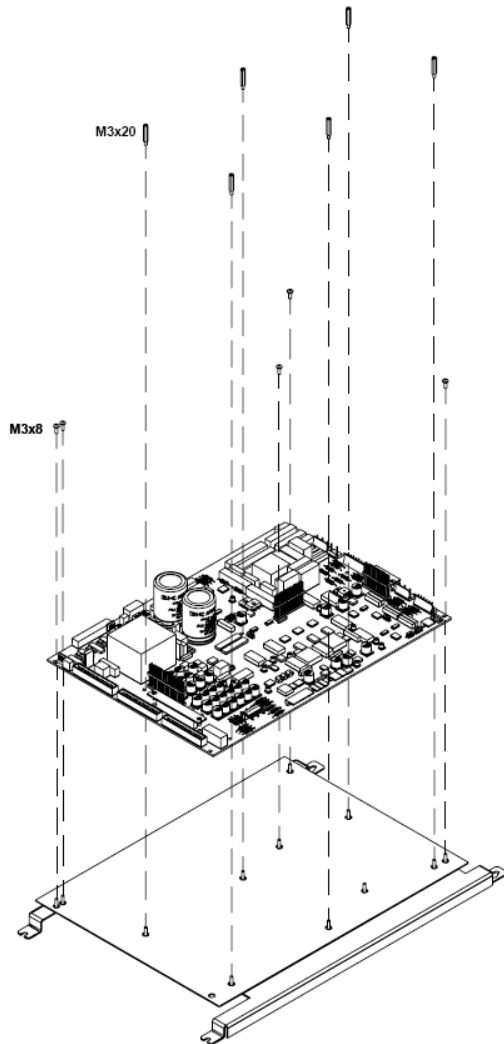

Figure 7.2.7. Disassembly of the power board
- 5) Put the board on the electronic tray, matching the bolts of the tray with the holes of the board (see figure 7.2.7)
Before proceeding, it is necessary to remove the embellishers (see section 7.2.1) and the tray where the control and power board are inserted (see figure 7.2.7).
Before removing the power connections board, you should remove the embellishers (see section 7.2.1), the tray where the control and power boards are inserted (see figure 7.2.7), the DC Bus (see section 7.2.9) and the gate drive board (see section 7.2.7).
In order to remove the single-phase choke, you should remove the embellishers (see section 7.2.1) and the tray for the boards (see figure 7.2.7) before.
It is necessary to remove the embellishers (see section 7.2.1), the tray for the boards (see figure 7.2.7) and separate the top of the chassis from the bottom (follow the steps described in section 7.2.9 and 7.2.10)
In order to remove the heatsink, first, you should remove the embellishers (see section 7.2.1), the tray for the boards (see figure 7.2.7), the gate drive board (see section 7.2.7), the DC bus (see section 7.2.8) and the power connections board (see section 7.2.9).